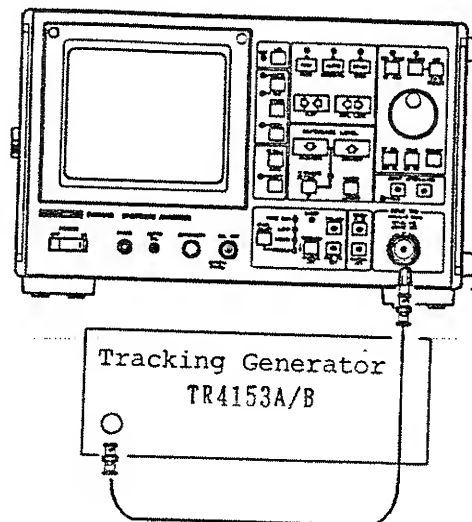

Figure 4-31 Direct Connection between Tracking Generator and System
- ① Connect this equipment to TR4153A/B through the measuring system excluding the cable to be measured (Figure 4-31).